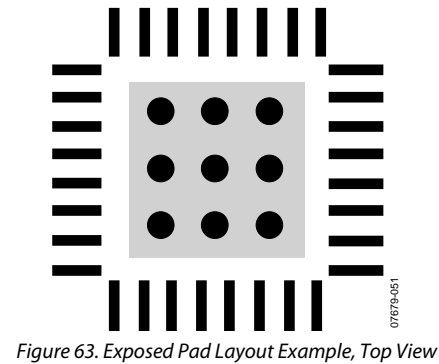

Figure 63. Exposed Pad Layout Example, Top View
- Vias should be placed to connect all layers of copper, allowing for efficient heat and energy conductivity. For an example, see Figure 63, which has nine vias arranged in a 3 inch \times 3 inch grid in the pad area.